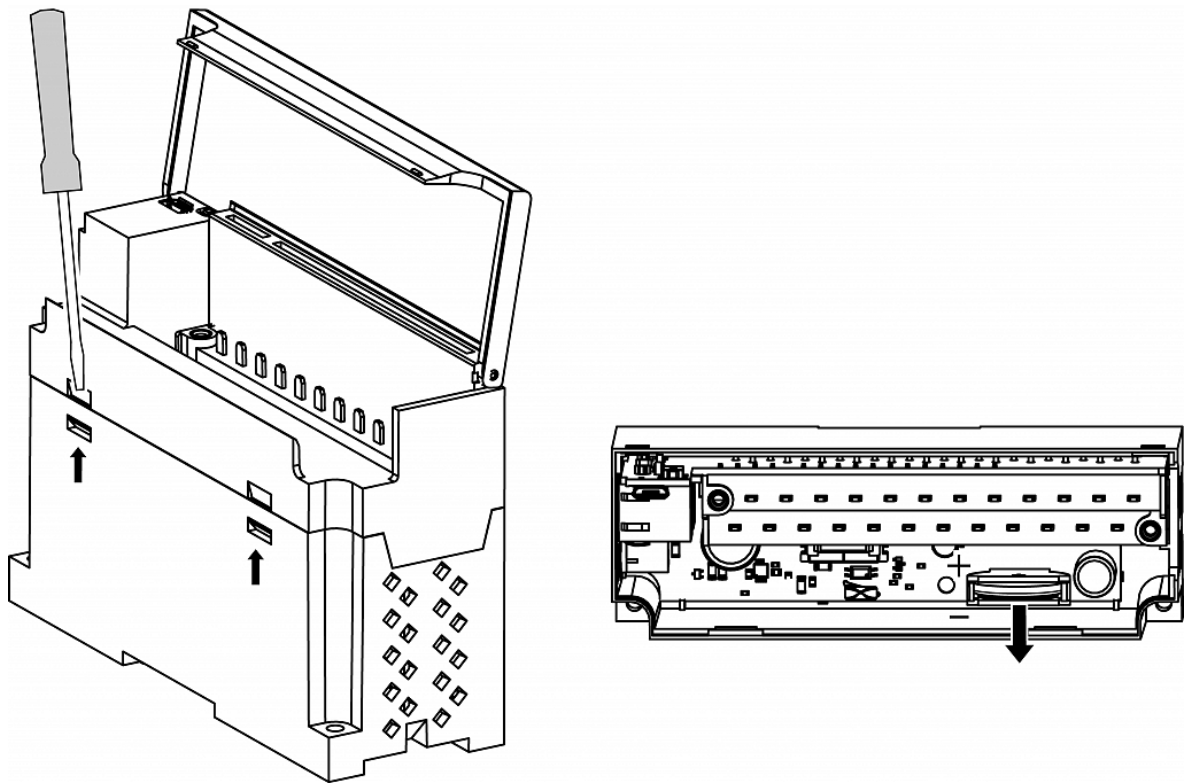

Fig. C.1 Battery replacement
4. Remove the front part the enclosure by opening the four side latches one-by-one using a flat screwdriver (Fig. C.1)